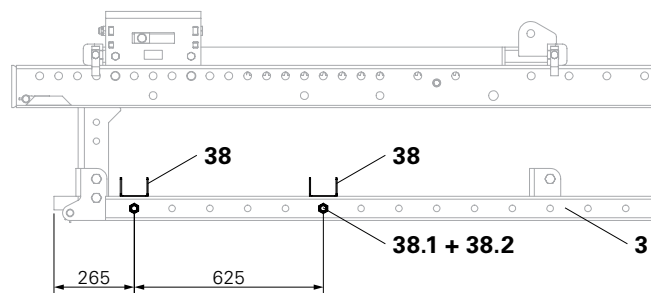
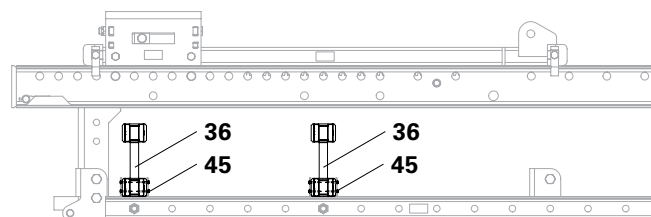

Fig. B1.08
Fig. B1.09
1. Secure Girder Fixation M20 (38) to the Platform Beam Support SCS (3) using bolts ISO 4014 M24 x 130-8.8 (38.1) and nuts ISO 7040 M24-8 (38.2) – 2x. (Fig. B1.08)
2. Place Platform Beam (36) in the Girder Fixation M20 (38) – 2x.
3. Secure Platform Beams (36) using TSS Torx 6 x 40 (45) – 4x per Girder Fixation M20 (38) respectively.
4. Align components at right angles to each other. (Fig. B1.09)